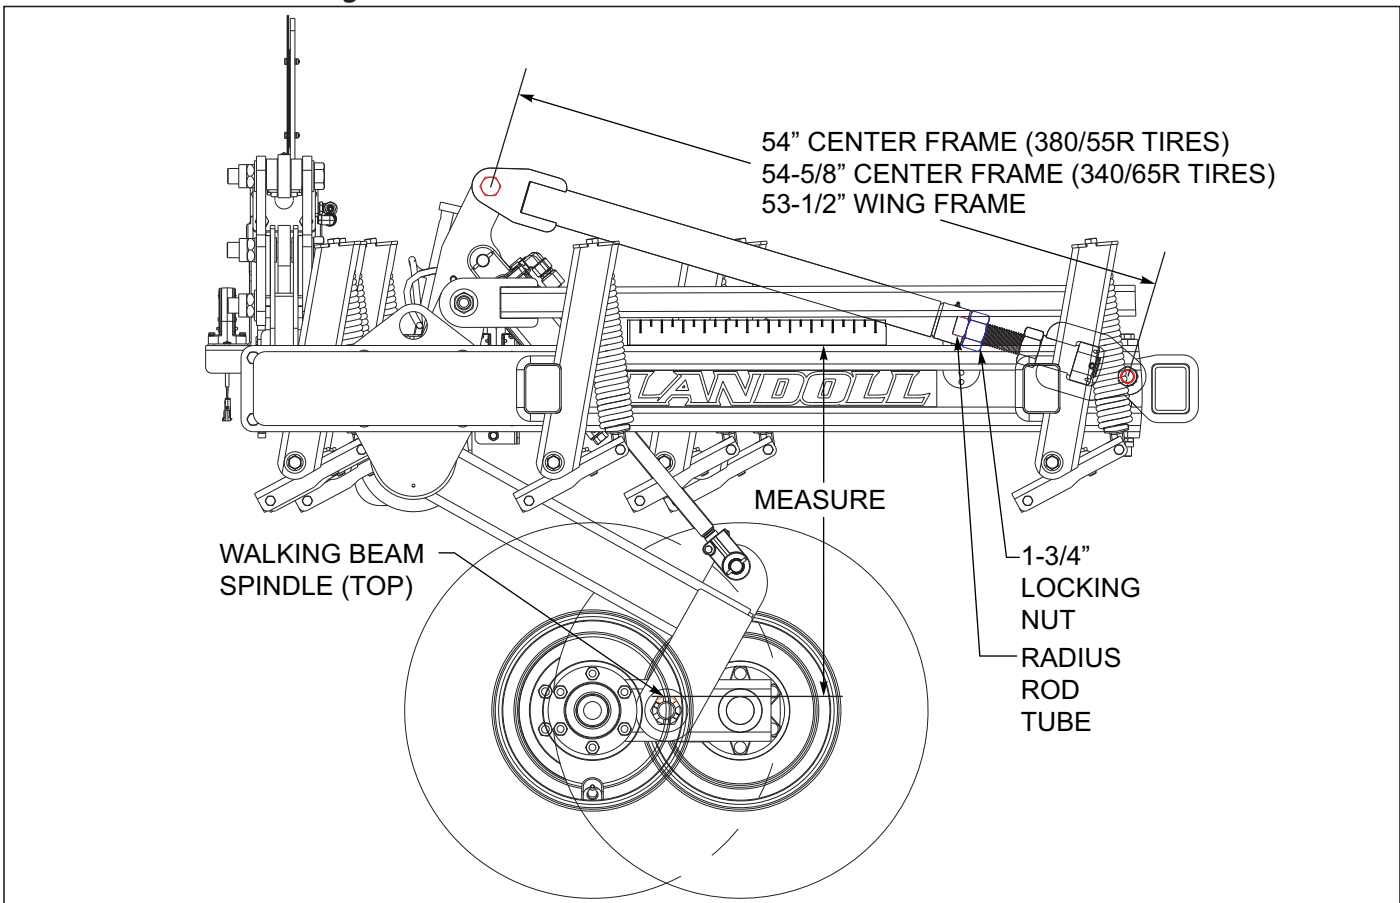

Figure 4-6: Leveling from Side to Side
2. To level the unit, verify that all tires are properly inflated. With the implement unfolded, raise the unit to fully extend the lift cylinders. Continue to hold the tractor lever 30 seconds to insure that the cylinders are fully extended and the rephasing lift system has been purged of air. Lower the implement until the sweeps are approximately 1" off the ground. On the center frame, lay a straight-edge across the top of the frame, and measure the distance from the walking tandem spindle to the top side of the frame of both walking tandems *See Figure 4-6*. Adjust the center radius rod at the front of the Field Cultivator center frame until the spindle heights are the same.